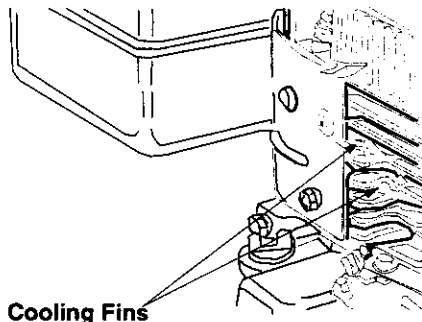

Figure 15
- Frequently remove grass clippings, dirt and debris from cooling fins, air intake screen and levers and linkages. See Figure 15. This will ensure adequate cooling and correct engine speed.